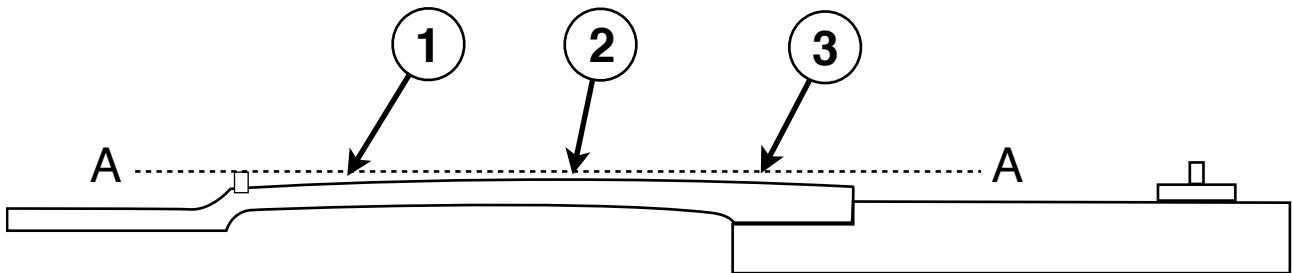
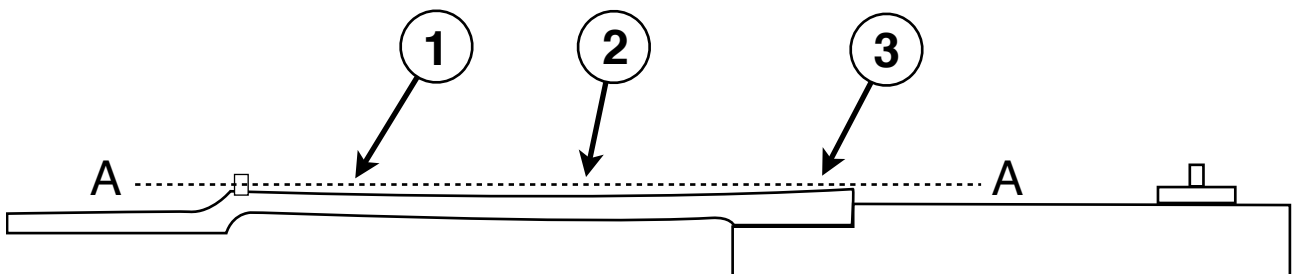

Fig. 14
Fig. 15
In **Fig. 14** you can see that the bass buzzes at the first frets ① and stops buzzing more or less at the middle of the neck ② and doesn't buzz at all at the last frets ③, which is a sign that you need to loosen the truss-rod because the neck isn't arched or it is bowed back, as you can see in relation to the straight line **A-A**.
In **Fig. 15** the instrument is arched in the correct direction but too much so. The instrument doesn't buzz at the first frets or in the middle, but it will buzz at the last frets, which is a sign that the neck should be straightened by tightening the truss-rod. In the case of most common truss-rods, you will need to tighten the head a quarter-turn clockwise.
11. Pay attention to where the instrument buzzes. If it does it at the first frets (**Fig. 14**), you should loosen the truss-rod a quarter-turn. If it does it at the last frets (**Fig. 15**), then you should tighten the truss-rod a quarter-turn.